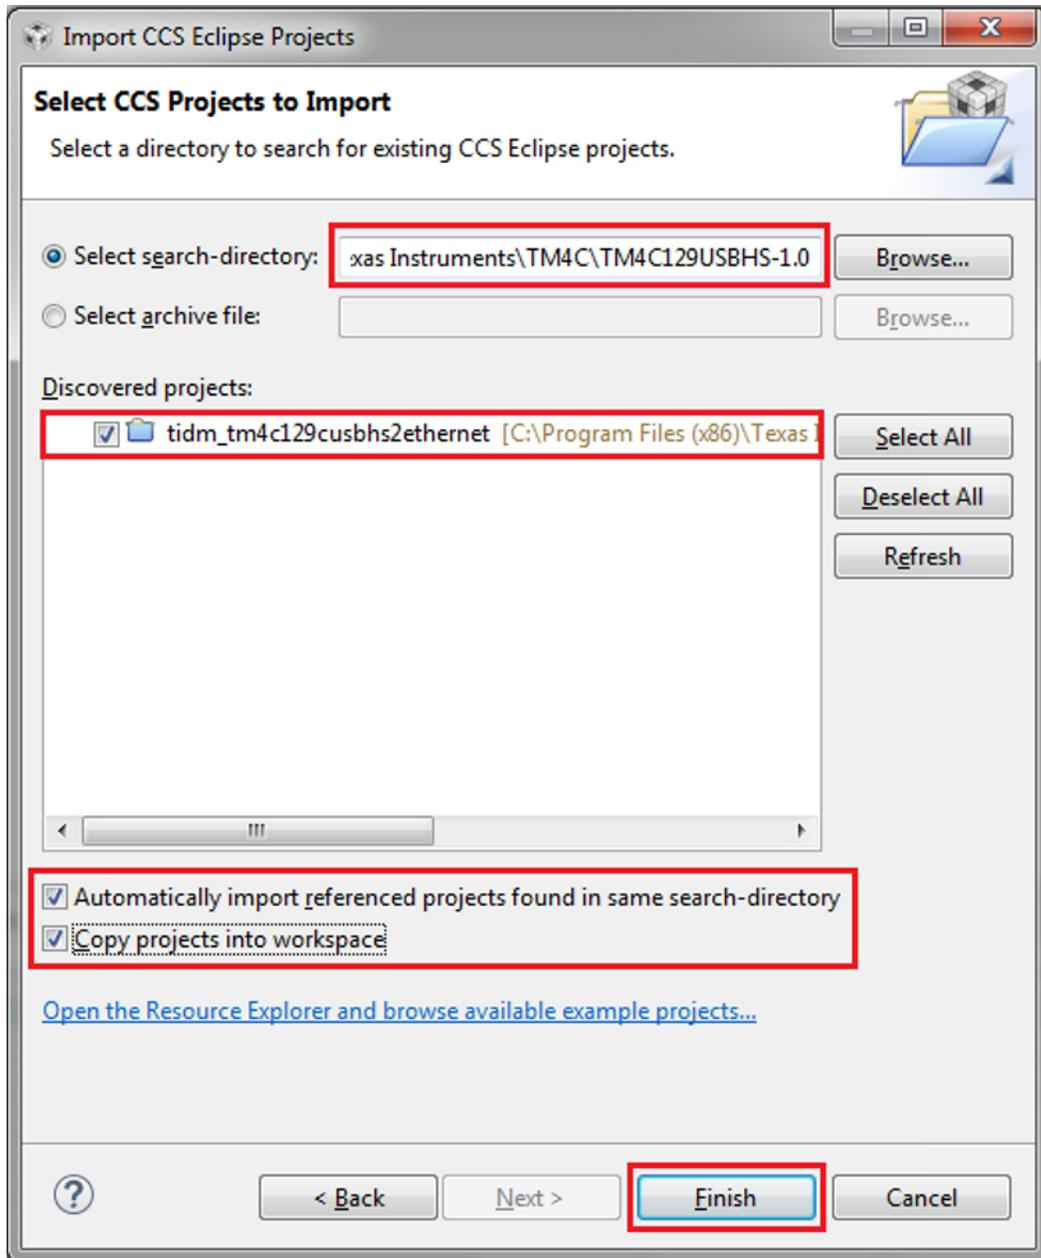

Figure 12. Import the Projects
- Click the *Browse* button in front of *Select search-directory* option, and navigate to the directory where the project collateral has been installed (see Section 2.2.1). Select all the projects that are listed in the *Discovered projects:* pane. Make sure that the check-boxes in front of the options *Automatically import referenced projects found in the same search-directory* and *Copy projects into workspace* are checked (see Figure 12). Now click on the *Finish* button. This will import the examples into CCS.